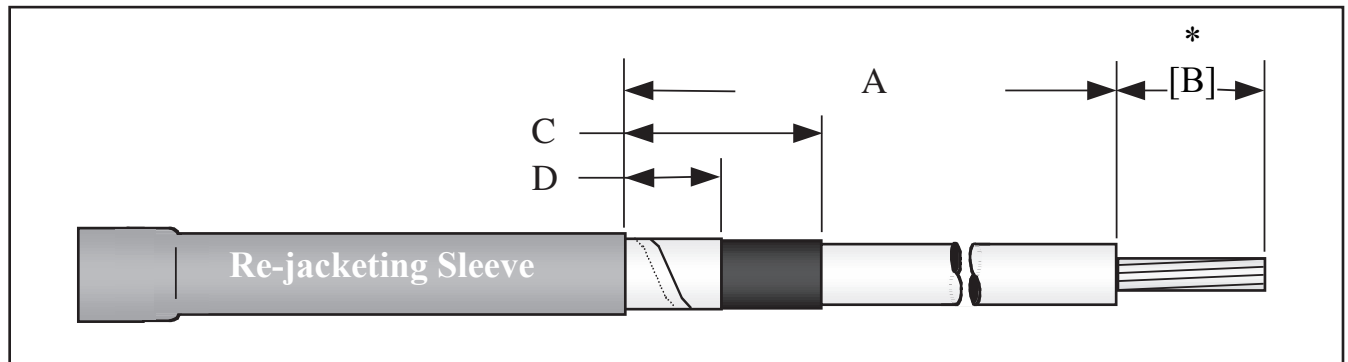

Figure 18
NOTE: Individual phase length and separation dimensions vary according to specific installation and equipment design requirements. They must, therefore, be determined by the installer and must conform to accepted engineering practices. Max phase length = 4 ft (121,9 cm) + termination length (from Figure 18, page 13).
6.1 Prepare cable phase legs according to dimensions shown (Figure 18).